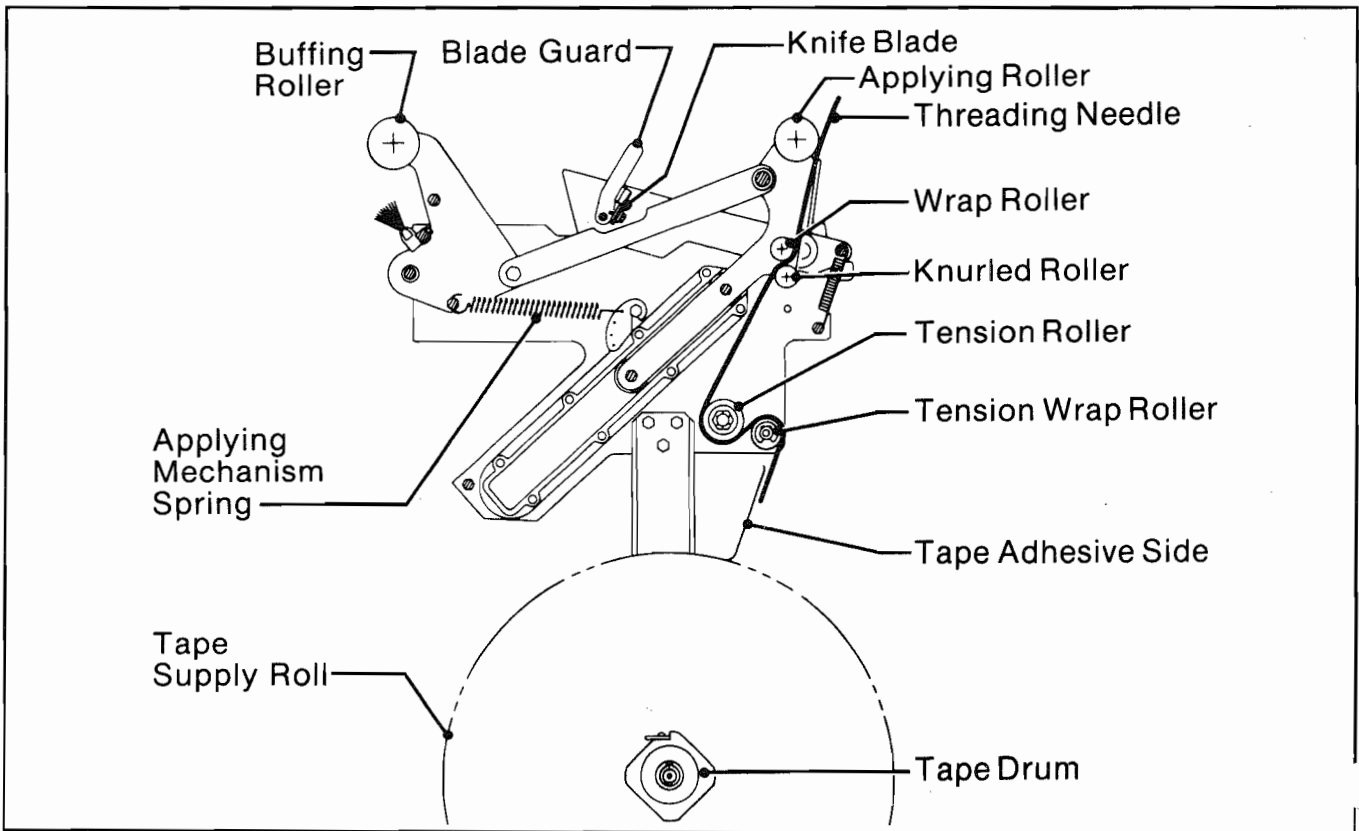
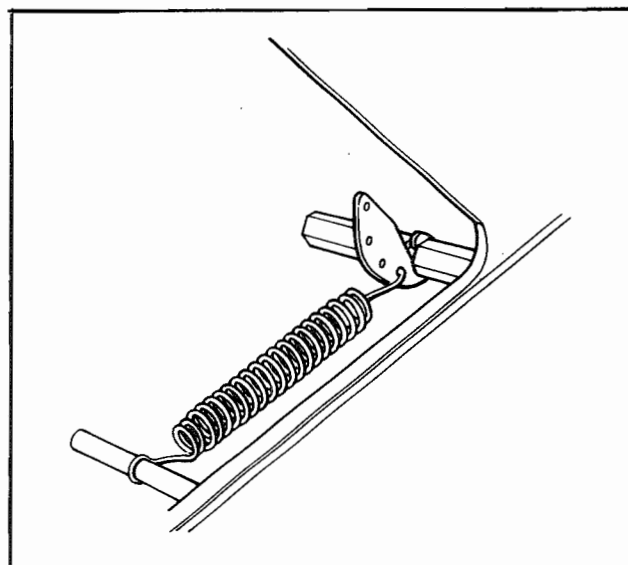
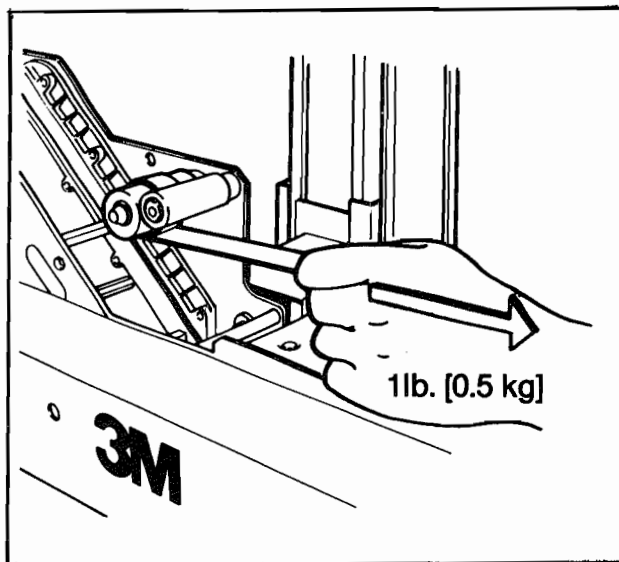

Figure 8A - Tape Threading Diagram - Bottom Taping Head - Left Side View
Figure 20
Figure 22
1. BOTH THE TOP AND BOTTOM TAPING HEADS UTILIZE EXTREMELY SHARP KNIFE BLADES ON THE ORANGE CUTTER LEVER ASSEMBLY AND WHICH ARE LOCATED UNDER THE BLADE GUARD WHICH HAS THE "CAUTION - SHARP KNIFE" LABEL. BEFORE WORKING WITH THE TAPING HEADS OR ATTEMPTING TO LOAD THE TAPE, REFER TO FIGURE 8A AND IDENTIFY THE BLADE LOCATION. KEEP HANDS OUT OF THESE AREAS EXCEPT AS NECESSARY TO SERVICE THE TAPING HEADS.
Tape Loading - Bottom Taping Head Refer to Figure 8A
The applying mechanism spring, shown in Figure 8A, **controls** applying and buffing roller **pressure** on the box and **returns** the mechanism to the **reset position**. The spring pressure is **preset**, as shown in Figure 20, for normal operation but is adjustable.
The one way tension roller, shown in Figure 8A, is **pre-set** for normal operation. Should the one way tension roller assembly require replacement, the roller must have **1 pound [0.5 kg] tangential force** when turning as illustrated in Figure 22.